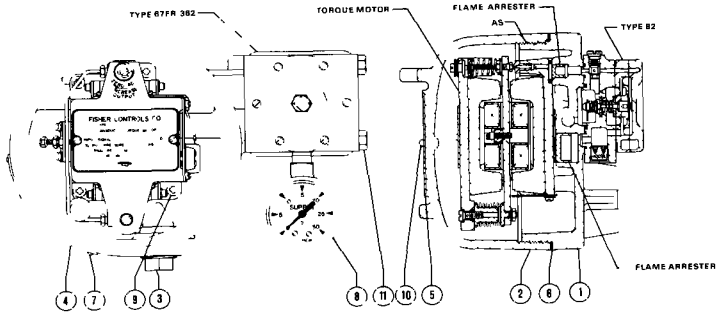

Figure 5 Type 546 Transducer
An anti-seize compound should be used on the case cover threads (marked AS in figure 5) to prevent the threads from galling.
- 1 Disconnect the external lead wires from the terminal mounted bracket assembly (key 53).
- 3 Loosen four machine screws (key 9, figure 5) that hold the torque motor assembly to the case. Remove **entire** torque motor assembly from case.
- 6 Tighten flexure pivot screws. Replace torque motor assembly and tighten screws (key 9, figure 5). Make sure that O-ring (key 37) is in place. Connect external lead wires and open air supply.
- 7 Make final adjustment of span with the span adjustment screw (key 24).
Type 546, 546S & 546ST Transducers (figure 5)
5 The nozzle is large enough (0.070 inch diameter) to minimize clogging. **Do not attempt to remove the nozzle for cleaning** because this cannot be done without disassembling the torque motor. However, if the nozzle is clogged, remove the entire torque motor assembly from the case by removing four screws (key 9, figure 5). Then run a wire through the nozzle from the underside of the assembly.
6 Check the flame arresters (figure 5) to see if they need cleaning. To do this, the entire torque motor assembly as shown in figure 6 has to be removed from the case. If flame arresters are dirty, clean by blowing them out with air pressure.